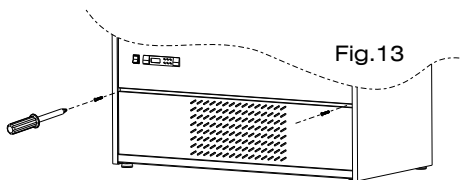

Fig.13
- Remove the grill cover on the front panel, by unscrewing the fastening screws (See Fig.13)